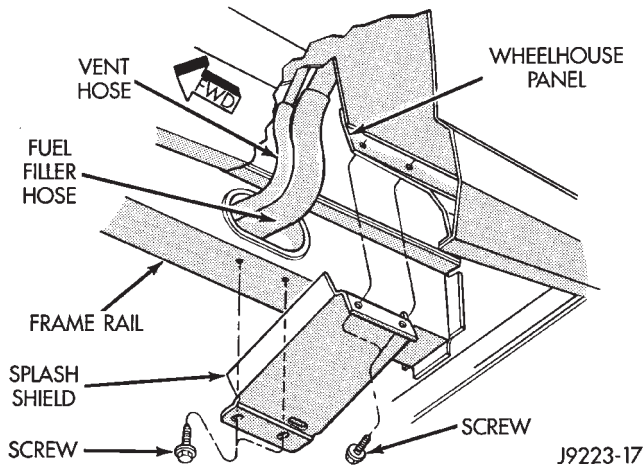

Fig. 7 Fuel Filler Hose Splash Shield—XJ Vehicles
- (1) Remove the screws that attach fuel filler hose splash shield to wheelhouse panel and frame rail.
- (2) Remove the hose splash shield from wheelhouse panel and frame rail (Fig. 7).